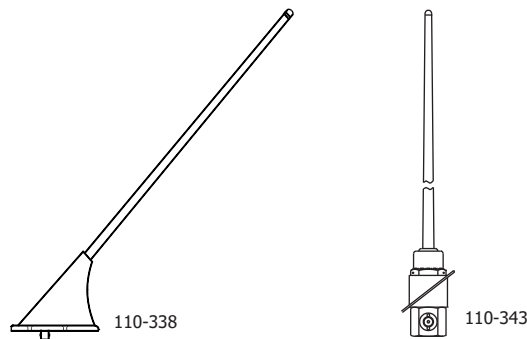

Figure 6. Rod and Whip Antennas
- (5) Two single-input rod and whip antennas are approved for use with the C406-1 Series ELT. Selection of the proper antenna is dependent upon end use, aircraft configuration and speed, and other factors. See "Figure 6. Rod and Whip Antennas".